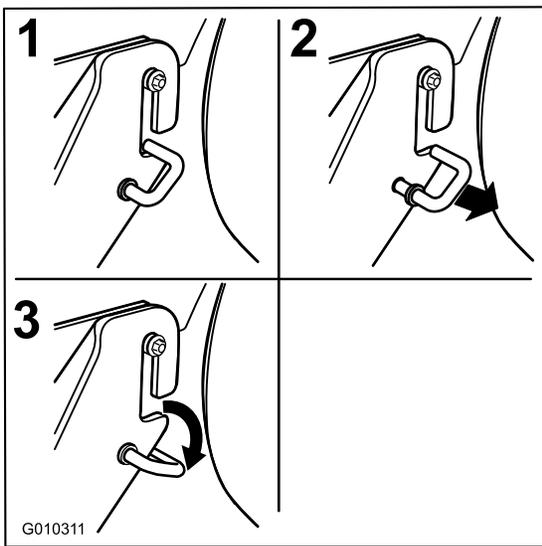

Figure 70
- Move the spring loaded J-hooks out of the slot in the rear hanger brackets on both sides of the deck (Figure 70).